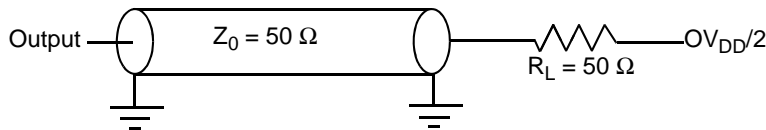

Figure 36. AC Test Load for the JTAG Interface
1. All outputs are measured from the midpoint voltage of the falling/rising edge of t_{TCLK} to the midpoint of the signal in question. The output timings are measured at the pins. All output timings assume a purely resistive 50-Ω load (see Figure 36). Time-of-flight delays must be added for trace lengths, vias, and connectors in the system.
2. The symbols used for timing specifications herein follow the pattern of $t_{(\text{first two letters of functional block})(\text{signal})(\text{state})(\text{reference})(\text{state})}$ for inputs and $t_{(\text{first two letters of functional block})(\text{reference})(\text{state})(\text{signal})(\text{state})}$ for outputs. For example, t_{JTDVKH} symbolizes JTAG device timing (JT) with respect to the time data input signals (D) reaching the valid state (V) relative to the t_{JTG} clock reference (K) going to the high (H) state or setup time. Also, t_{JTDXKH} symbolizes JTAG timing (JT) with respect to the time data input signals (D) went invalid (X) relative to the t_{JTG} clock reference (K) going to the high (H) state. Note that, in general, the clock reference symbol representation is based on three letters representing the clock of a particular functional. For rise and fall times, the latter convention is used with the appropriate letter: R (rise) or F (fall).
Figure 36 provides the AC test load for TDO and the boundary-scan outputs.